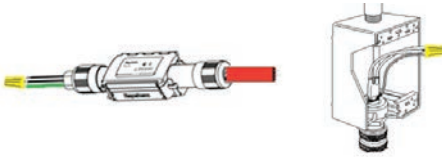

Figure 24:
To complete a continuity test it is best to start the installation with a power connection kit. A completed power connection kit allows for easier testing. The bus wires and braid can be temporarily connected together at the power connection end (Figure 24) and resistance can be tested at the other end as each additional component is added to the system.
3. Temporarily connect cable bus wires and ground wire together with a wire nut (Figure 24)